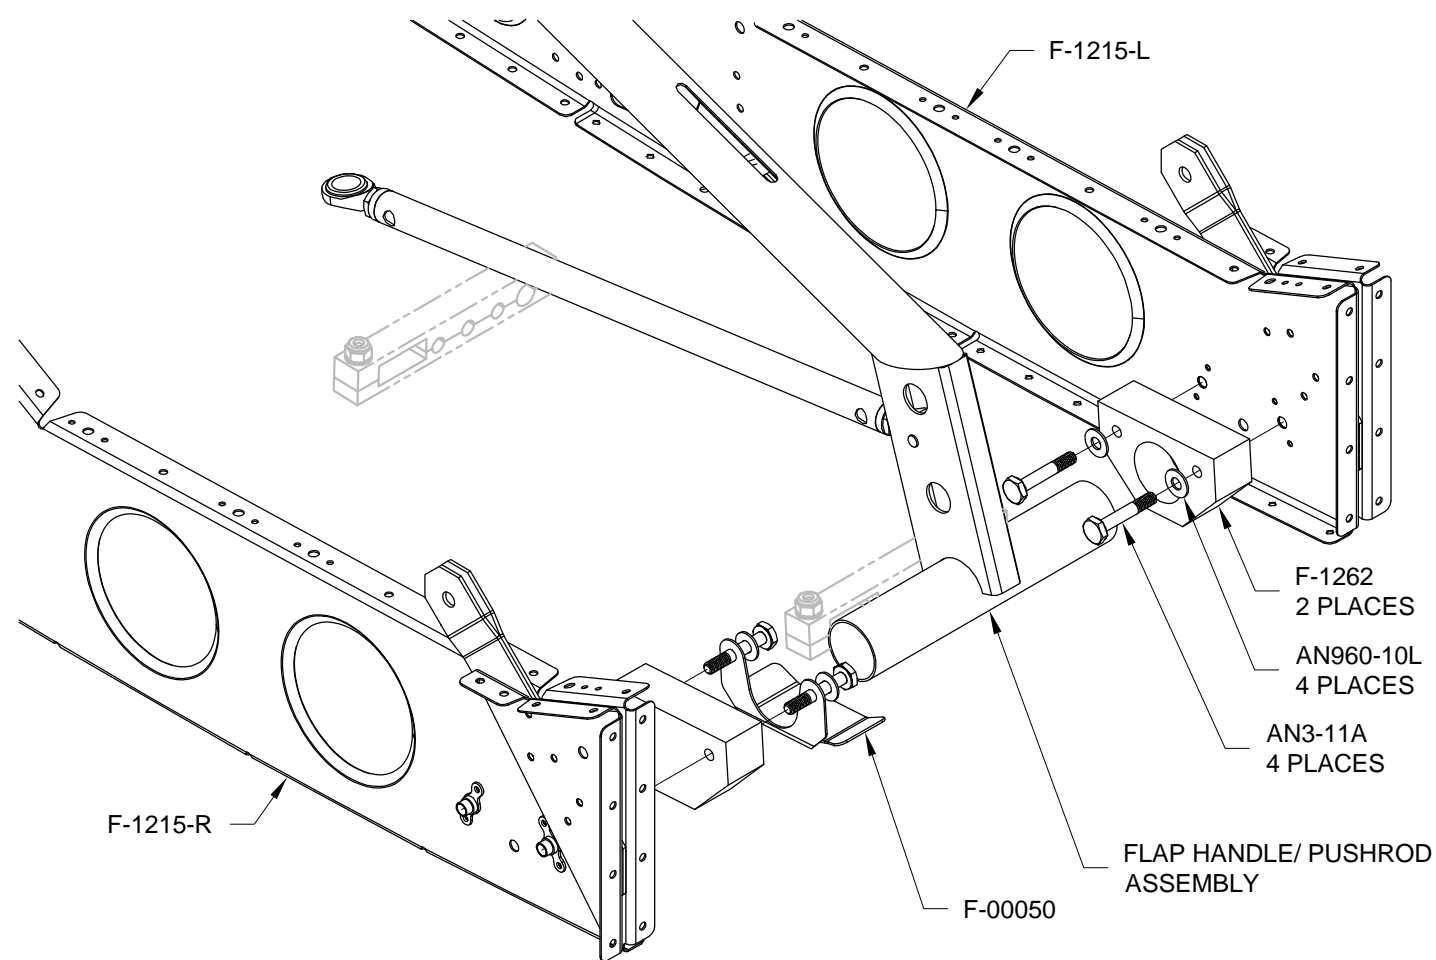
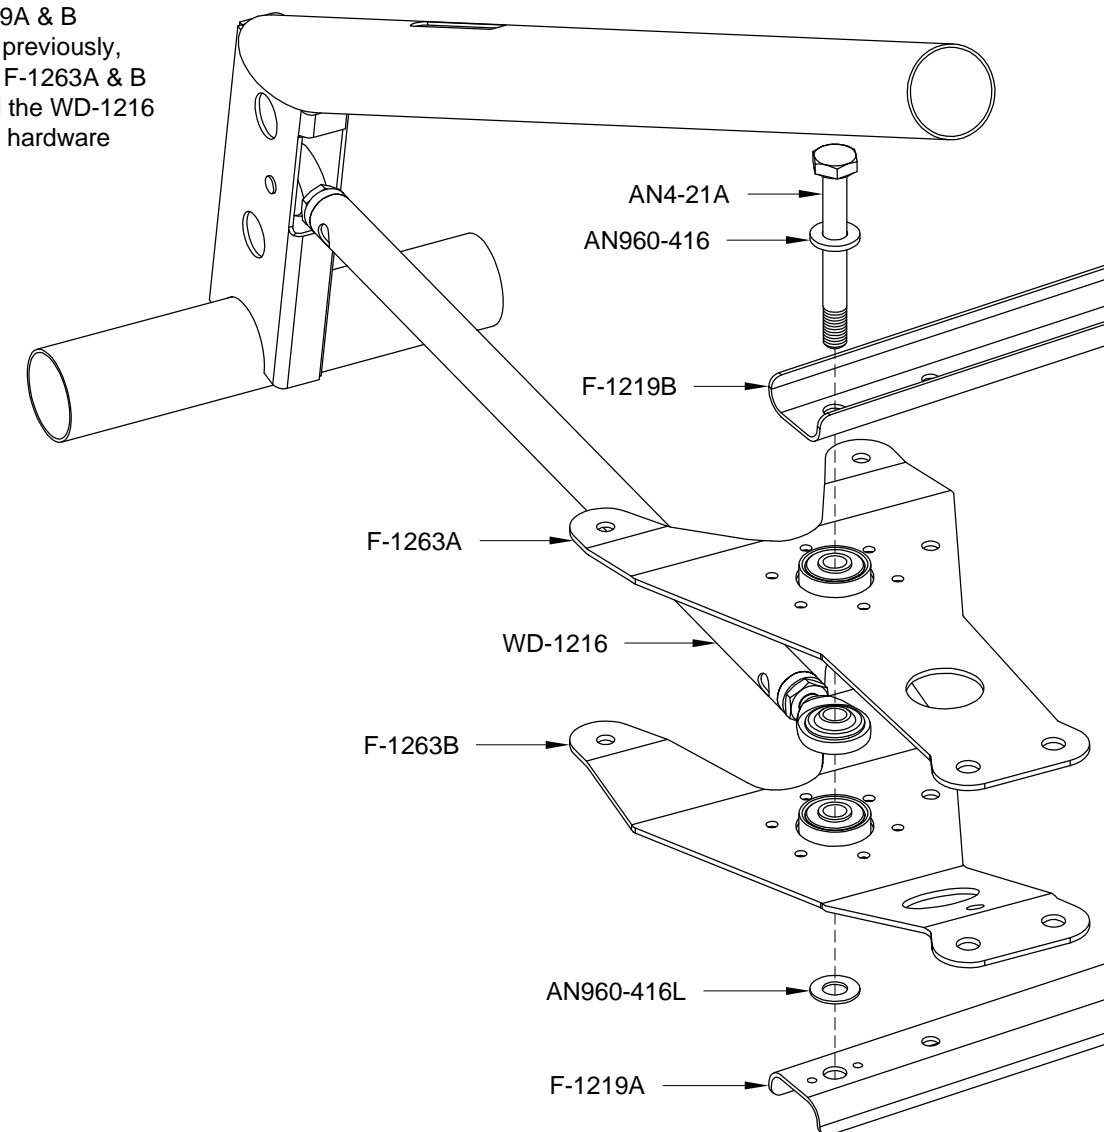

FIGURE 2: INSTALLING THE FLAP HANDLE/ PUSHROD ASSEMBLY
FIGURE 3: ATTACHING THE FLAPERON MIXER BELLCRANKS
Step 2: Secure the Flap Handle/ Pushrod Assembly and F-00050 Wire Routing Bracket to the inboard F-1215-L & -R Seat Ribs using the F-1262 Flap Handle Blocks and the hardware called out in Figure 2.
Step 3: Bolt together the F-1219A & B Flaperon Mixer Arms (installed previously, see Page 21-04, Figure 2), the F-1263A & B Flaperon Mixer Bellcranks, and the WD-1216 Flap Handle Pushrod using the hardware shown in Figure 3.